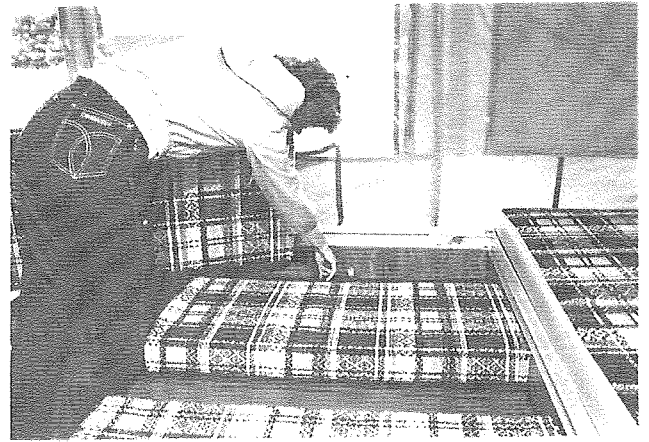

FIG. 28 - Seat & Backrest Set-Up
(See Figs. 28 & 29)
14. Remove the backrests from their positions and turn the backrest support brackets down. Slide the seat cushions outboard and place the backrests, cushion side down, on the stored dinette table. (See Figs. 28 & 29)